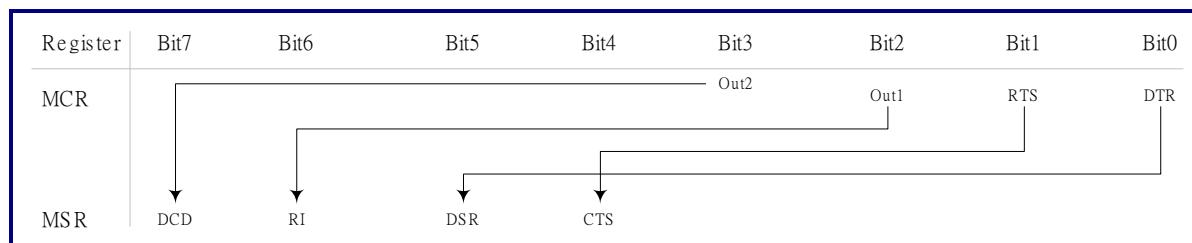

Figure 13-2. Interconnection between MCR and MSR in Loopback Mode
- Four modem control inputs are internally connected to two modem control outputs plus the general-purpose outputs. In such a way, io_irda_ncts will be internally controlled by io_irda_nrts, io_irda_ndsr is controlled by io_irda_ndtr, io_irda_nri is controlled by io_irda_nout1, and io_irda_ndcd is controlled by io_irda_nout2. That is to say; there is a non-ordered correspondence between four least significant bits of MCR and four most significant bits of MSR. Please refer to Figure 13-2 for the interconnection between MCR and MSR in the loopback mode. The control output pins are forced to the inactive state (High).